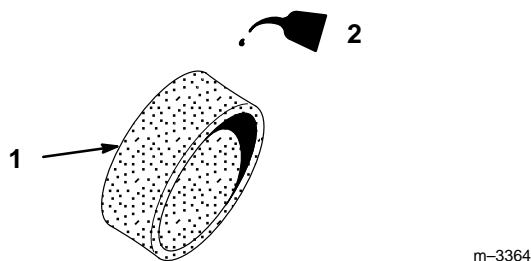

Figure 28
3. Saturate the element with clean engine oil (Fig. 28), squeeze out the excess oil, then wrap it in a clean rag and squeeze it as dry as possible. Be careful not to tear the element.